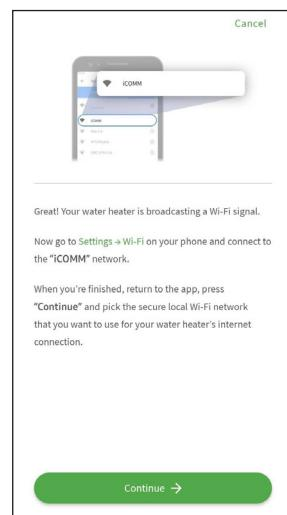

Figure 153 - Go to Device Settings
- 2 The app will confirm the water heater is broadcasting a Wi-Fi signal. If the water heater Wi-Fi signal is detected, the app will ask you to manually connect to the iCOMM network via the Wi-Fi settings on your device (Figure 153).